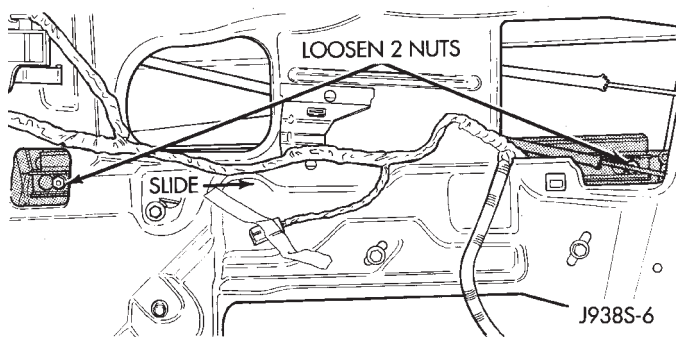

Fig. 6 Glass Attaching Nuts
(1) Remove the front door trim panel as described in Door Module in this group.
(2) Remove the watershield from the inner door panel.
(3) Loosen the two nuts securing the door glass to the window regulator lift plate (Fig. 6).